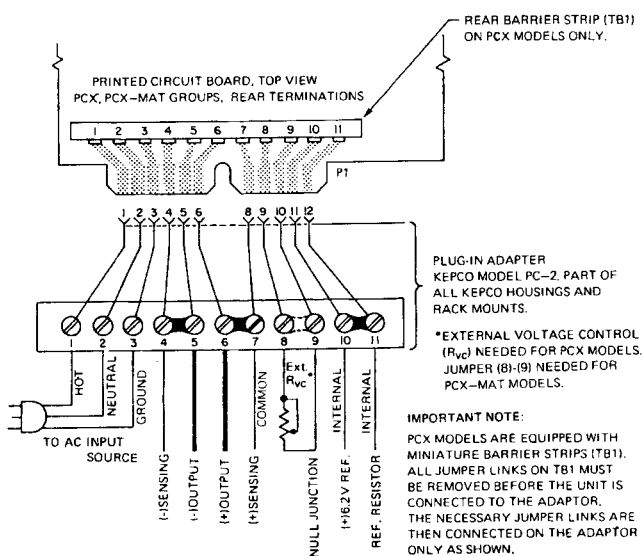

FIG. 2-2 REAR TERMINATIONS, PCX AND PCX—MAT GROUPS
- b) REAR: Refer to FIG. 2-2.
- b) PCX-MAT MODELS. Connect to mating device (either one of the accessories described in paragraph 1-8) and to AC input power. Turn AC POWER SWITCH "on". (Refer to FIG. 2-2 for the location of the front panel controls.) AC POWER INDICATOR light (part of AC POWER SWITCH) should energize. Turn VOLTAGE